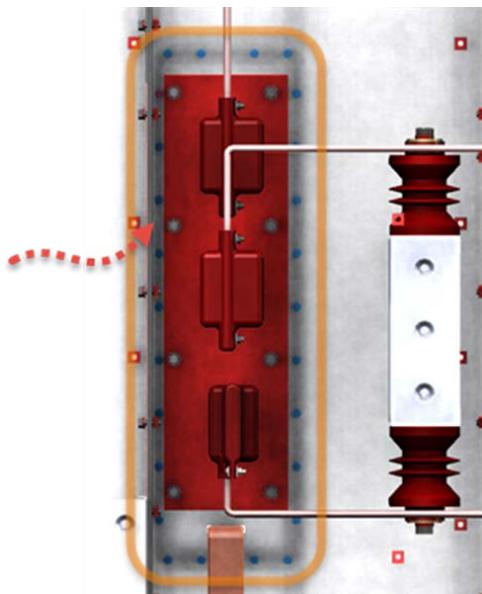

Figure 10: Secure the taptite collar in the MCC from within the transition frame
5. Drive the ¼"-20 taptites from inside the transition frame, into the MCC taptite collar, previously installed, fastening it to the Transition Frame (Figure 10).